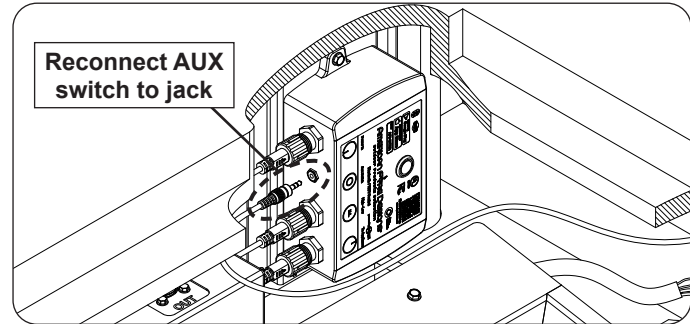

Fig. 34-2 Reconnect AUX switch
6. Reconnect the AUX switch (see Fig. 34-2).